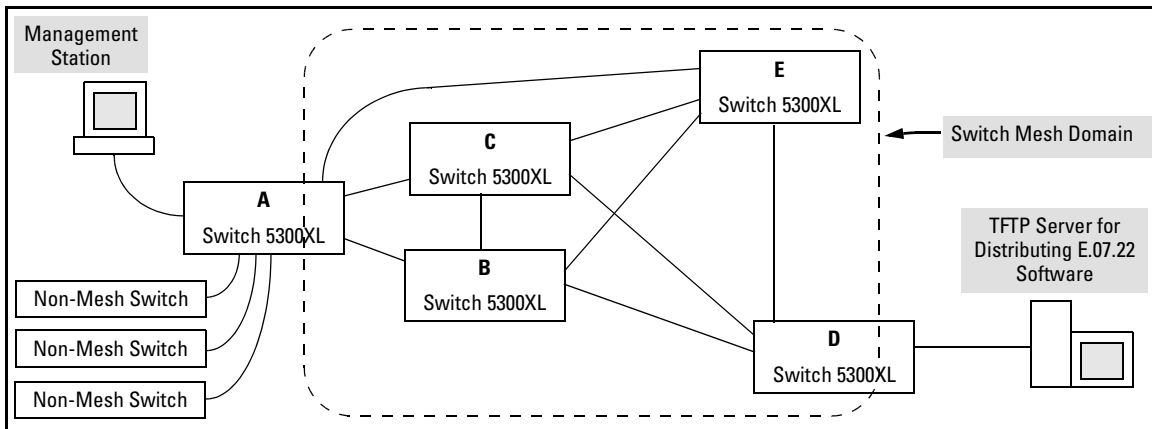

Figure 1. Five-Switch Mesh Without Full Connectivity (No Direct Link Between Switches A and D)
Suppose that all five 5300XL switches in figure 1 are running software release E.05.xx or E.06.xx.
2. Reboot the switch at the greatest distance (that is, the greatest number of mesh hops) from the switch used by your management station. In figure 1, switch **D** is at a greater distance from the management station than the other meshed switches, so you should reboot switch **D** first.
3. Reboot the switch at the next greatest distance from the switch used by your management station. In figure 1, the next switch to reboot is either switch **B**, **C**, or **E**. (All three are the same distance from the switch used by the management station.)
5. Reboot the remaining switch. (This is the switch directly connected to the management station.) In figure 1 this is switch **A**.